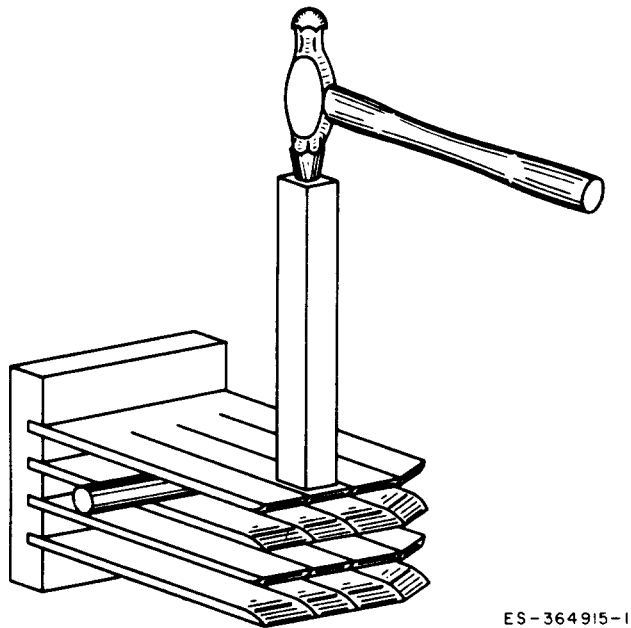

Fig. 6—Contact Clip Adjustment
(1) Contact clips, other than those with silvered contacts, that have any slight roughness or burrs should be smoothed with abrasive cloth or a fine file so that the blade engages the clip smoothly and positively. Shape clips as required in accordance with Fig. 6 or 7. Care should be taken to remove a minimum of copper.
- (2) When the amount of adjustment is large, insert a round rod of the proper size between the clips as shown in Fig. 6 and shape the clips in their proper relation with a hammer and fiber or wood block. Remove the round rod and try the clips for contact surface. Repeat this procedure, if necessary, until the desired adjustment has been obtained.